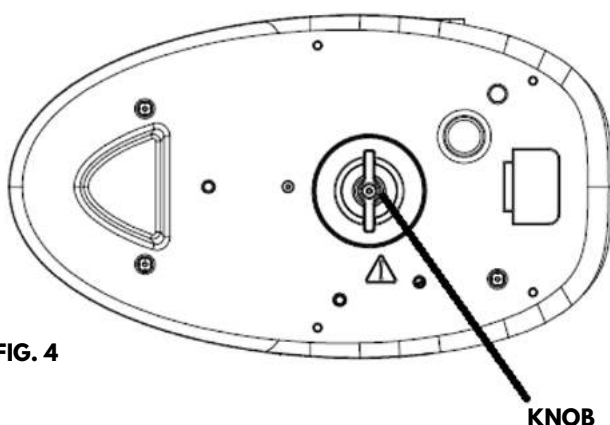

FIG. 4
3. To remove the mineral deposits collecting at inner steam generator, follow the operation as below: firstly reverse the unit base and place it on a level surface horizontally, make sure that the unit base shall be placed stably, then cover a towel on the knob and rotate the knob with the towel to detach it, after it, drain the steam generator, finally, refill the steam generator with clean water and then empty the water in the steam generator, repeat the operation of cleaning the steam generator for 2-3 times to clean it well (see Fig. 4).